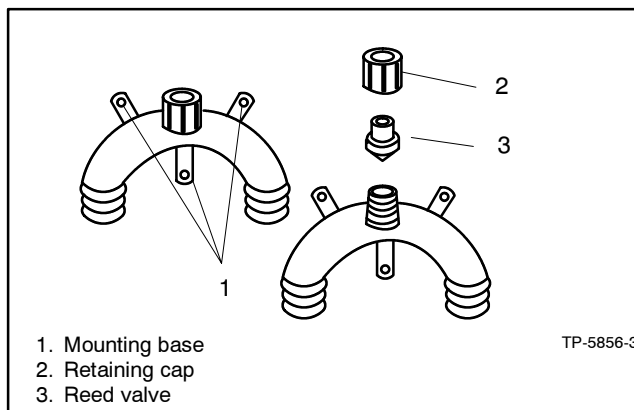

Figure 3-1 Siphon Break
2. Remove the retaining cap and remove the reed valve for inspection. See Figure 3-1.
6. Install the reed valve into the mounting base with the valve downward. See Figure 3-1, item 3.